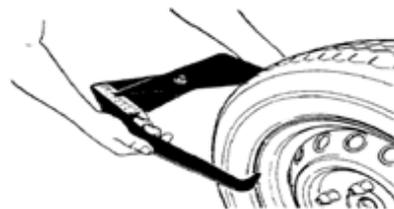

Fig.2
- Use width gauge to read the value of width (Fig. 2), press **b+** and **b-** to change, set “b” value.